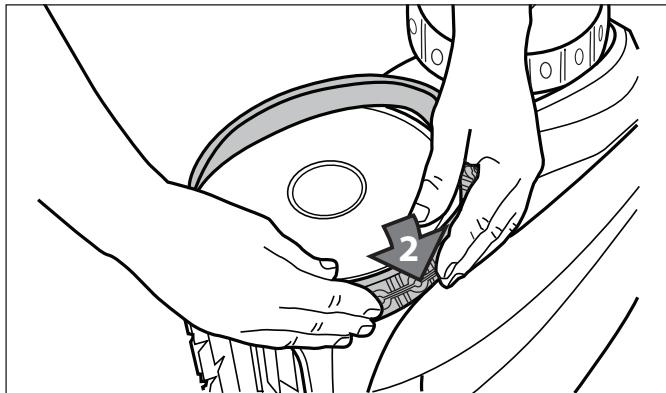

**Figure 36. Remove the Old Tire**
2. Remove the old tire (Figure 36).